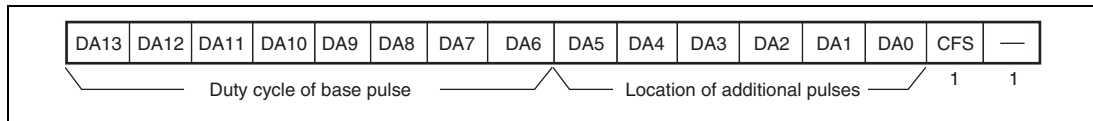

**Figure 9.6 D/A Data Register Configuration when CFS = 1**
An example of the additional pulses when CFS = 1 (base cycle = resolution (T) × 256) and OS = 1 (inverted PWM output) is described below. When CFS = 1, the upper eight bits (DA13 to DA6) in DADR determine the duty cycle of the base pulse while the subsequent six bits (DA5 to DA0) determine the locations of the additional pulses as shown in figure 9.6.